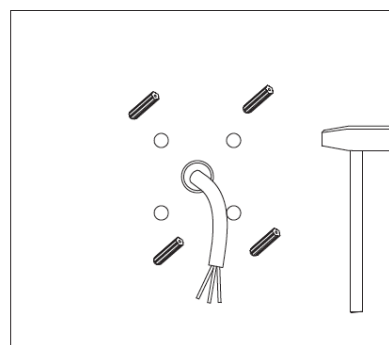

Figure 6
Step 4: Fix rubber plugs into holes (Figure 6) ;